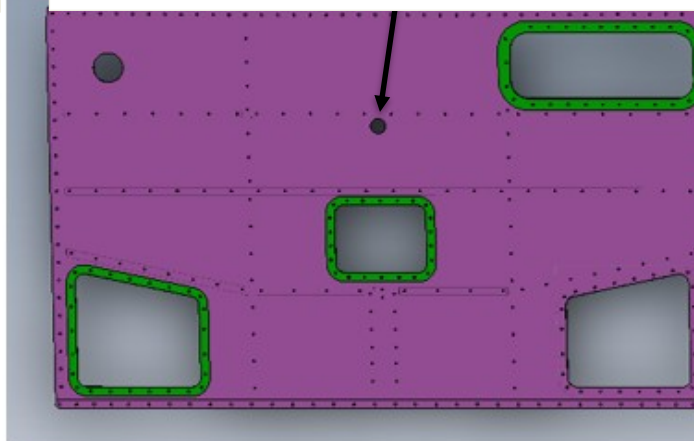

Figure 8: The top skin of the top box to drill the hole for the coax cable.
- Step 1: Transfer the antenna mounting hole using the removable roof as a template to position and drill a 50mm hole on the Topbox as shown in Figure 6 and in Figure 8.
- Step 4: Drill the hole from the top on the Topbox as shown in Figure 8.